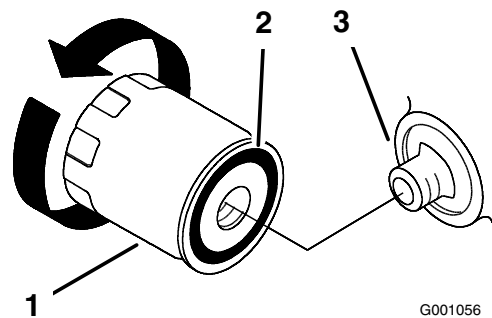
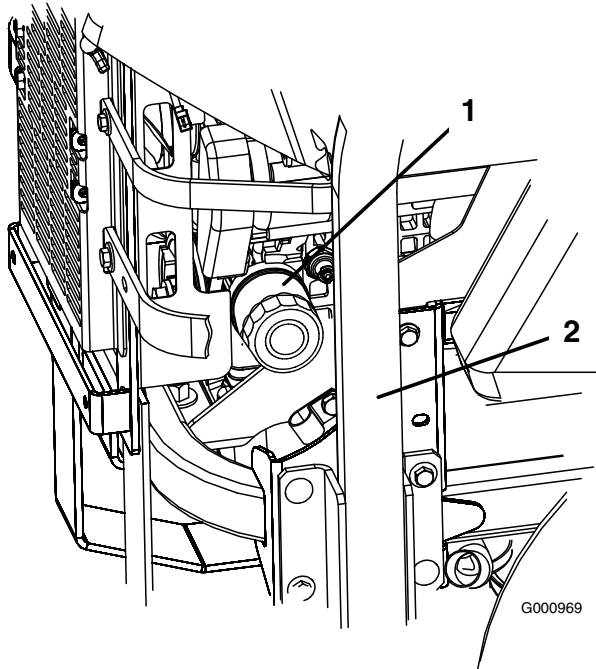

Figure 41
Figure 40
3. Turn the filter counterclockwise to remove it (Figure 40 and Figure 41).